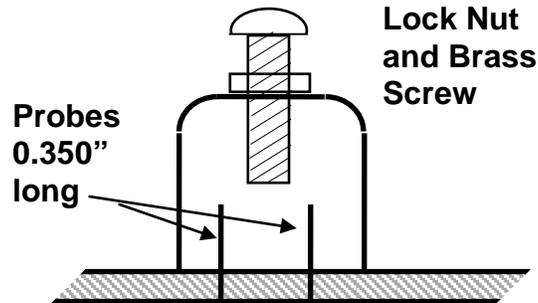

Figure 8
2. If you are using a spectrum analyzer to tune the transverter, install all of the filter pins (14) as shown in figure 8. The pins that are supplied in the kit are the correct length (0.300"- 0.350" long) if you just cut off the tapered sharp points but check. Now insert and solder. Connect the spectrum analyzer to the LO test point and apply 9VDC to the +9 on the transverter and to the DIGILO. Adjust F1 and F2 for maximum signal. When complete, remove voltages, and move C11A to the C11 operating position connecting the mixers to the LO. Then remove the SMA test connector. Proceed to step #6.